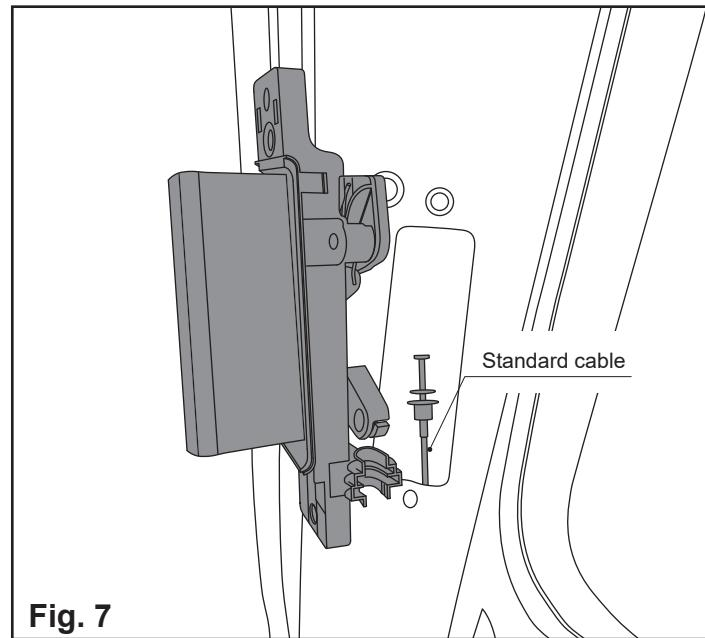

Fig. 7
1. Dismantle the inside handle and remove the existing bowden cable (Fig. 7).